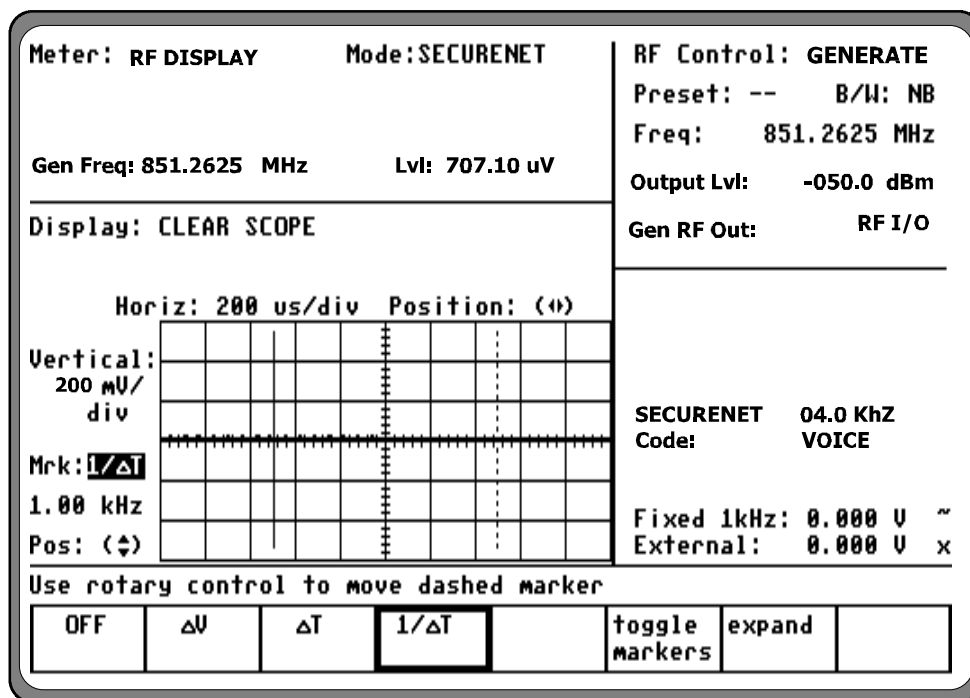

Figure 14-8. SECURENET CLEAR SCOPE Display of Output Modulation
6. Place cursor in the "Display:" field and press CLEAR SCOPE softkey. The CLEAR SCOPE screen should appear similar to figure 14-8.